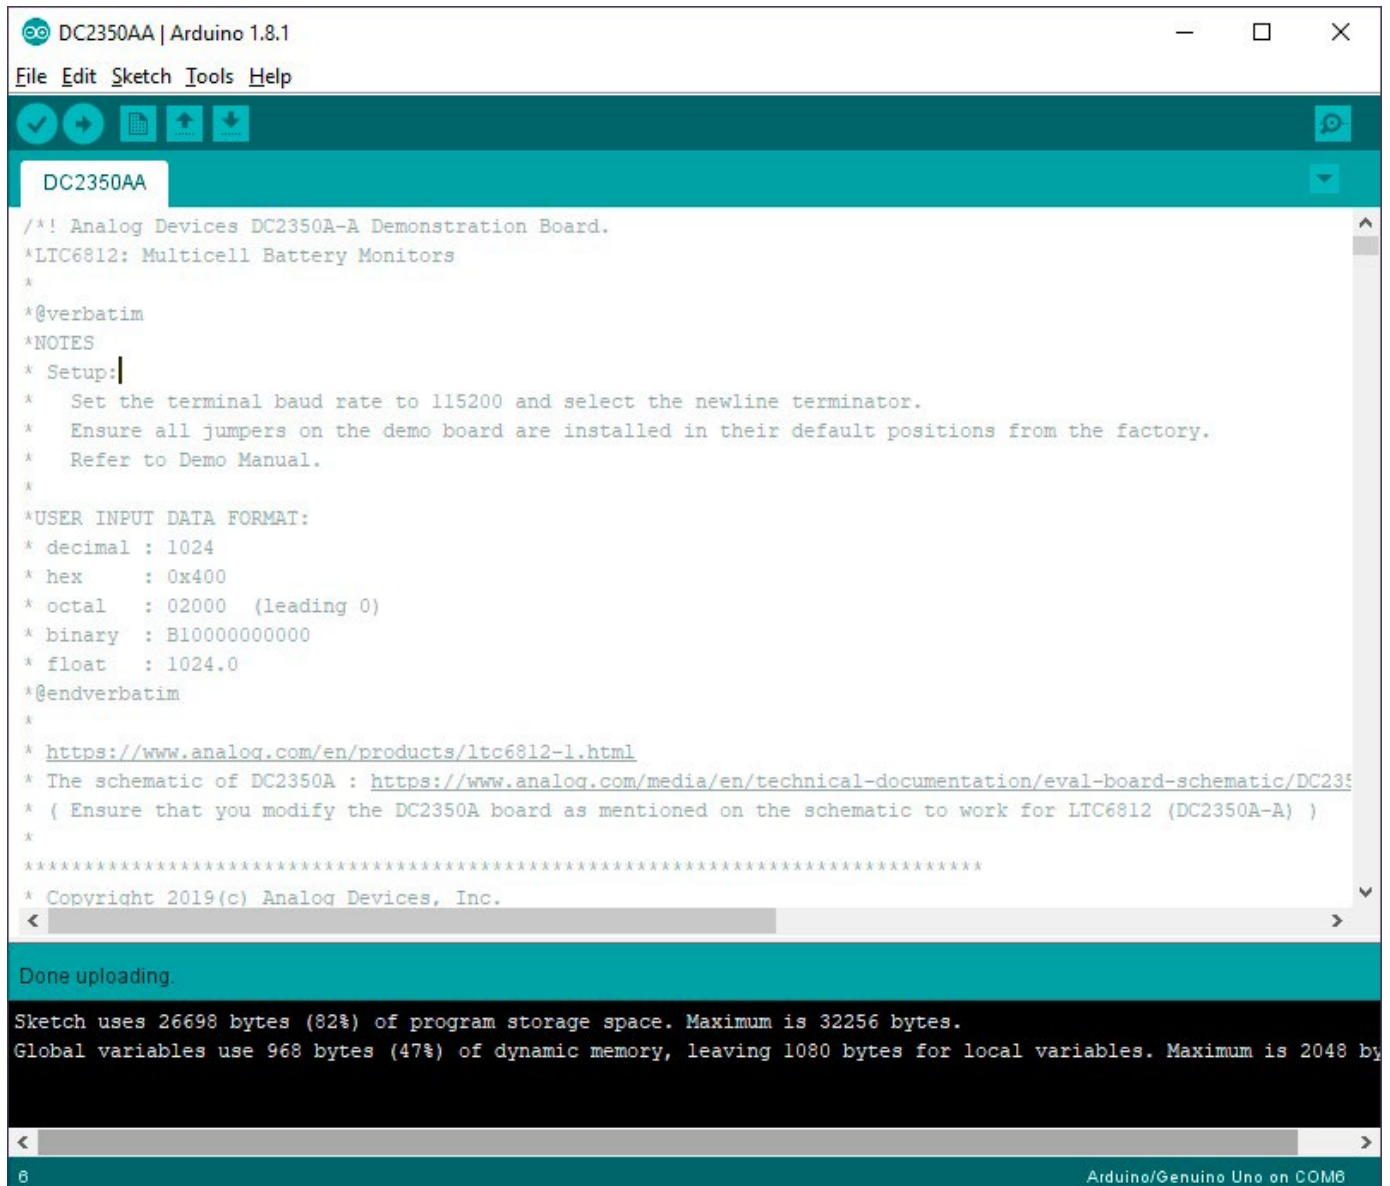

Figure 8. Uploading DC2350AA Sketch
7. Upload the **DC2350AA** sketch onto the DC2026 by clicking on the **Upload** button on the top left corner. When this process is completed there will be a **Done Uploading** message on the bottom left corner (see Figure 8).